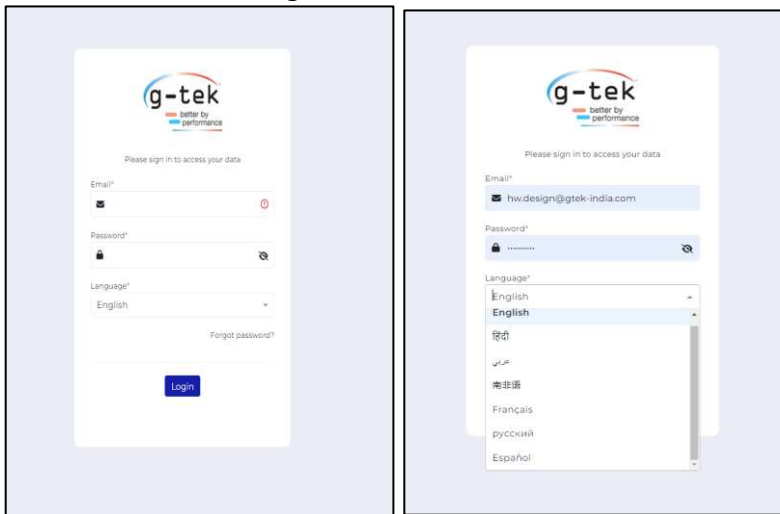

Figure 36 Login Page of the EMS Cloud Server Application
- Open the “EMS Cloud” server as per the link and login credential details shared by the manufacturer as shown in the figure 36.